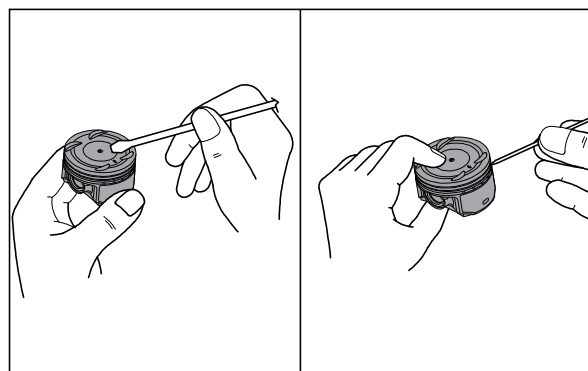

Fig. 3.92
- Decarbonise the piston and piston ring grooves. After cleaning the grooves, fit the rings and rotate them in their respective grooves to make sure that they rotate freely. (Fig. 3.92)